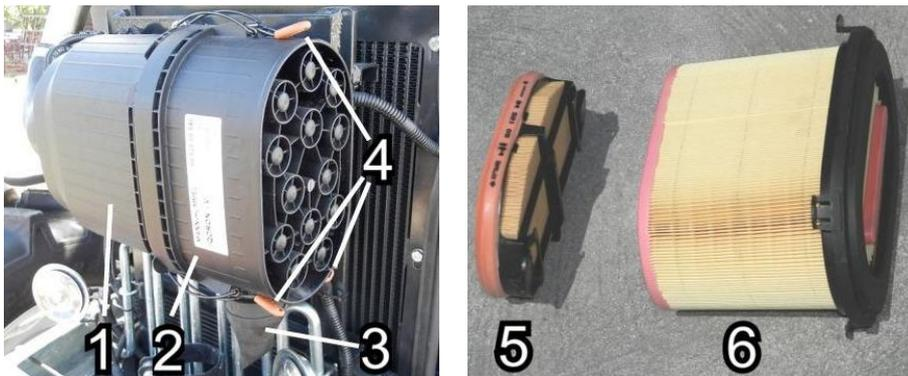

Fig. 5.3.6. Dry air cleaner.
Remove any accumulated dust from the dry air cleaner dust collector every 10 hours of operation, or daily in extremely dusty conditions (Fig. 5.3.6);
- remove the Cleaner cover (2 - Fig. 5.3.6) by releasing 3 latches (4 - Fig. 5.3.6) and carefully slide the element (6 - Fig. 5.3.6) out the filter housing,